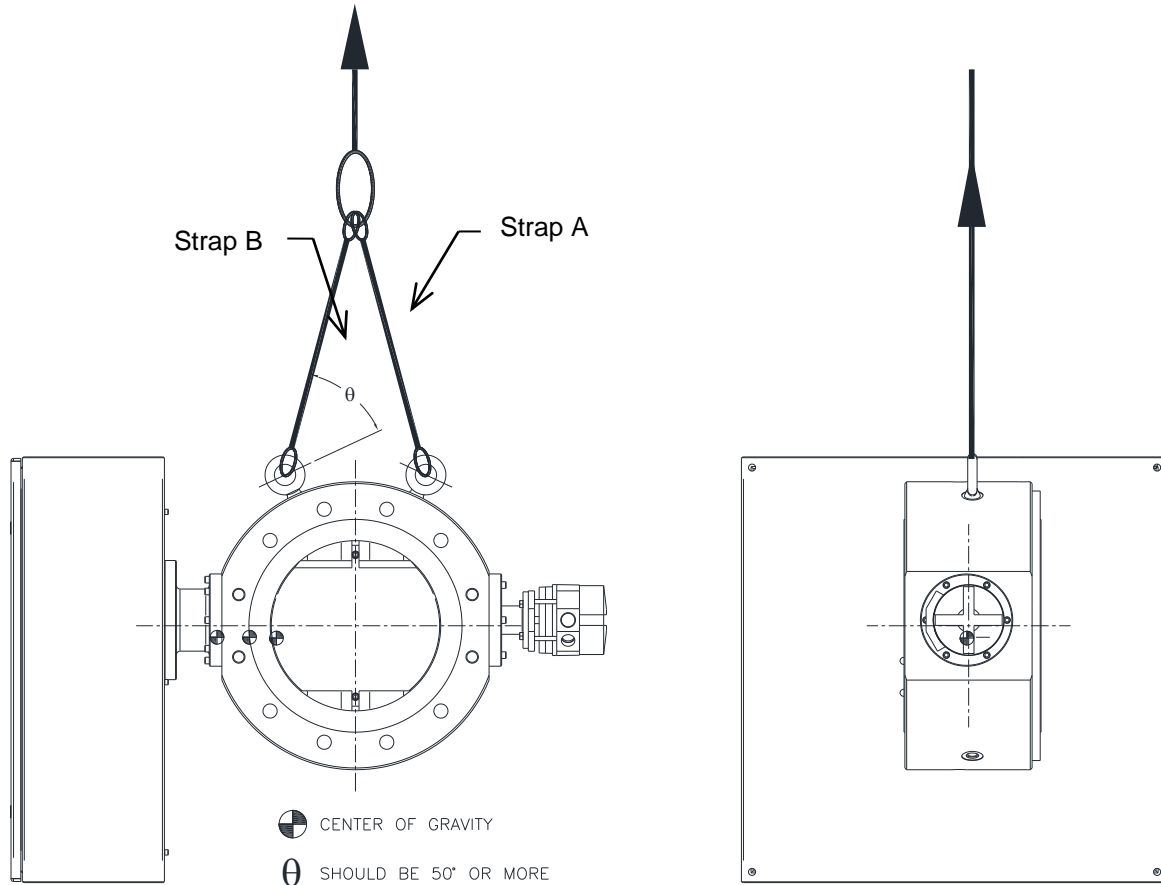

Figure 1: DO'S for BPRV (Typ)
6. While lifting the valve use a single lift point with 2 straps or 2 chains that are equal in length. See Fig 1 strap A is equal in length to strap B. The length of straps need to be long enough so  $\theta$  is greater than  $50^\circ$ . COG details are given on the approval drawings.
9. Some of Dos and Don'ts for lifting the valve assembly are shown in figures 1 thru 4.